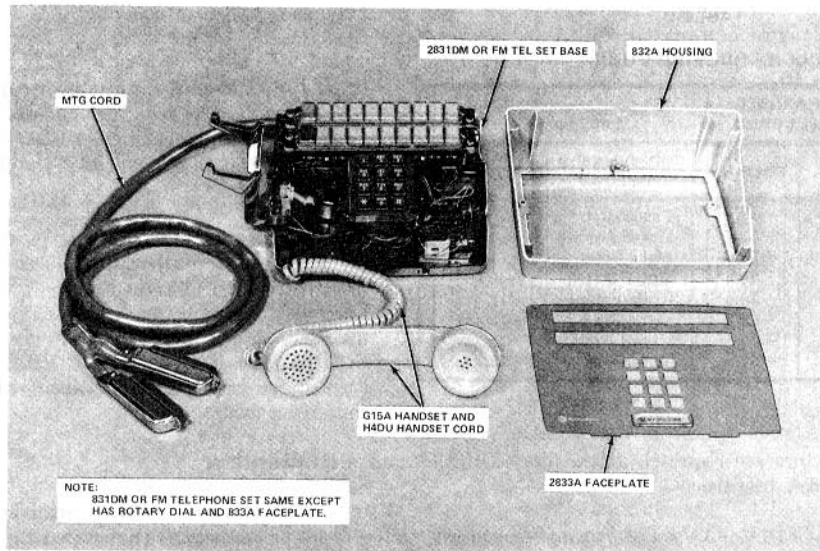

Fig. 2—Station Modular Arrangement, 2831DM (MD) or 2831FM Telephone Set
3.01 Install the completely assembled telephone set or assemble the required components to the telephone set base (Fig. 2).